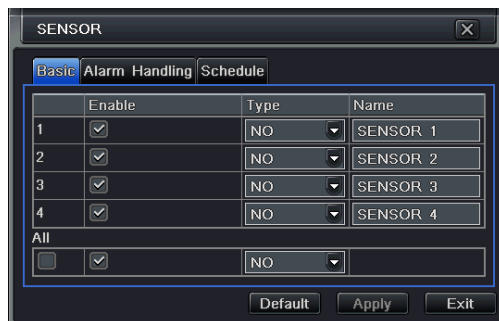

Fig 4.18 Alarm Configuration - Sensor - Basic
① Basic
Step 1: Enter into system configuration → alarm configuration → sensor → basic. Refer to Fig 4.18.